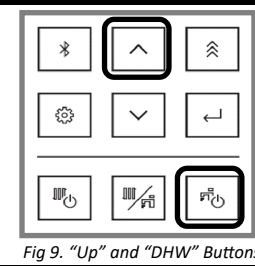

Fig. 4. "Up" and "DHW" Buttons
- Press and hold the "DHW" button for two seconds and then the **▲** (Up) button simultaneously (Fig. 4).